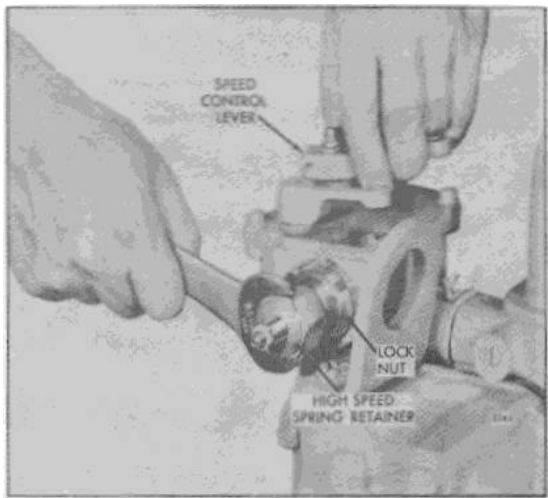

Fig. 5. Adjusting Maximum No-Load Engine Speed (Type A)
1. Loosen the lock nut (Fig. 5) and back off the high-speed spring retainer approximately five turns. With the engine at operating temperature and no-load on the engine, place the speed control lever in the full-fuel position. Turn the high-speed spring retainer IN until the engine is operating at the recommended no-load speed.